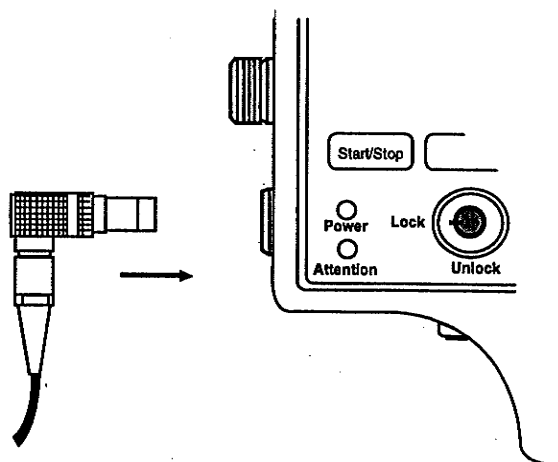

Figure 3-1 • Connecting the charger to the pump
- Plug the charger into the pump, as shown in Figure 3-1.